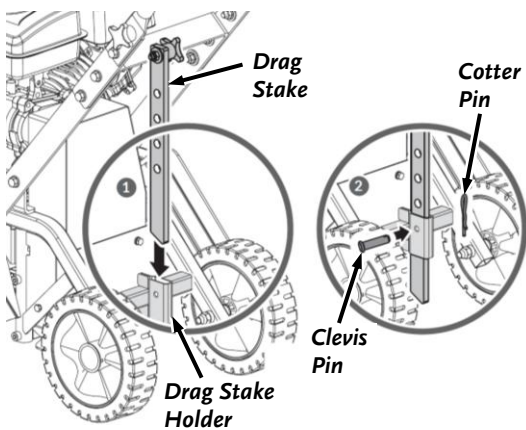

Figure 11
1. Insert the Drag Stake into the Drag Stake Holder Tube. And secure it at the lowest Depth Stake hole location with 8x32 Pin and Cotter Pin (**Figure 11**).